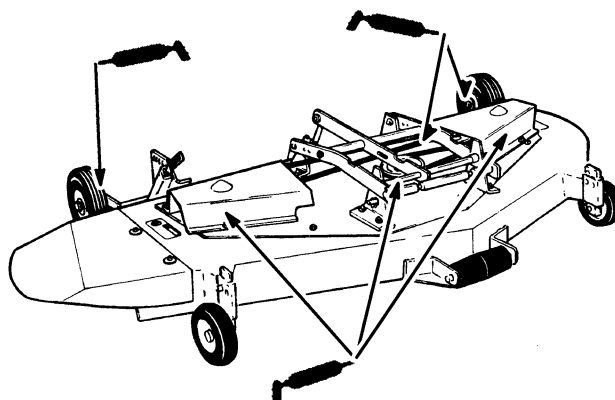

Figure 29
1. Lubricate the blade spindle and gauge wheel bearings (Fig. 29).